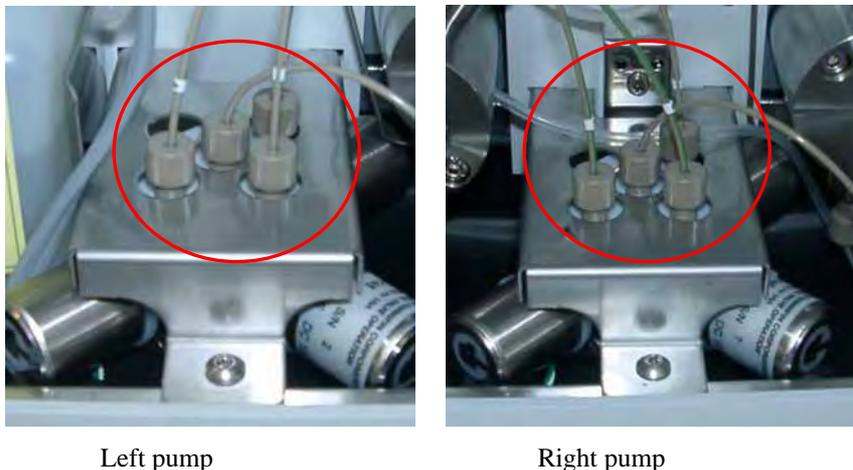

Fig. 17: Connecting the solvent lines (P680A DGP-6 pump)
- For the **P680A DGP-6** pump, the solvent lines are connected at the factory to the 3-port proportioning valves (→ Fig. 17). If your HPLC system includes the appropriate Solvent Rack with integrated degasser, make sure that the tubing connecting the pump to the degasser is as short as possible. Therefore, stack the rack onto the pump as shown in Fig. 2. For information about how to connect the tubing to the degasser, refer to the *Operating Instructions for the SOR-100 Solvent Racks*.